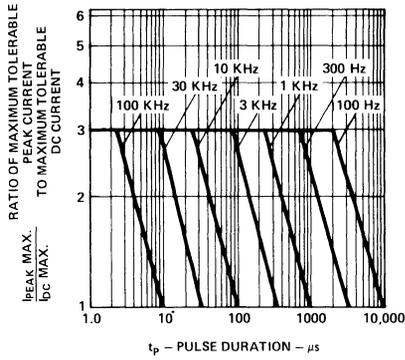

Figure 2. Maximum Tolerable Peak Current vs. Pulse Duration. ( $I_{DC}$  MAX as per MAX Ratings.)
1. See Figure 2 to establish pulsed operating conditions.